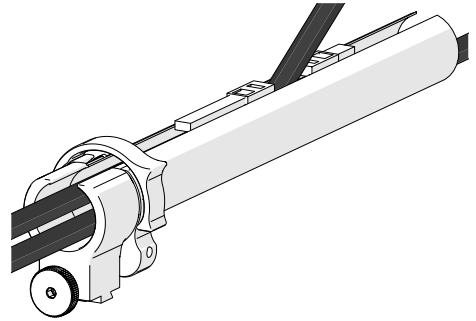

Fig. 76 - Flexibility
4. When necessary, the two zippers may be opened to allow cables to exit the tube anywhere between the ends (Fig. 76).